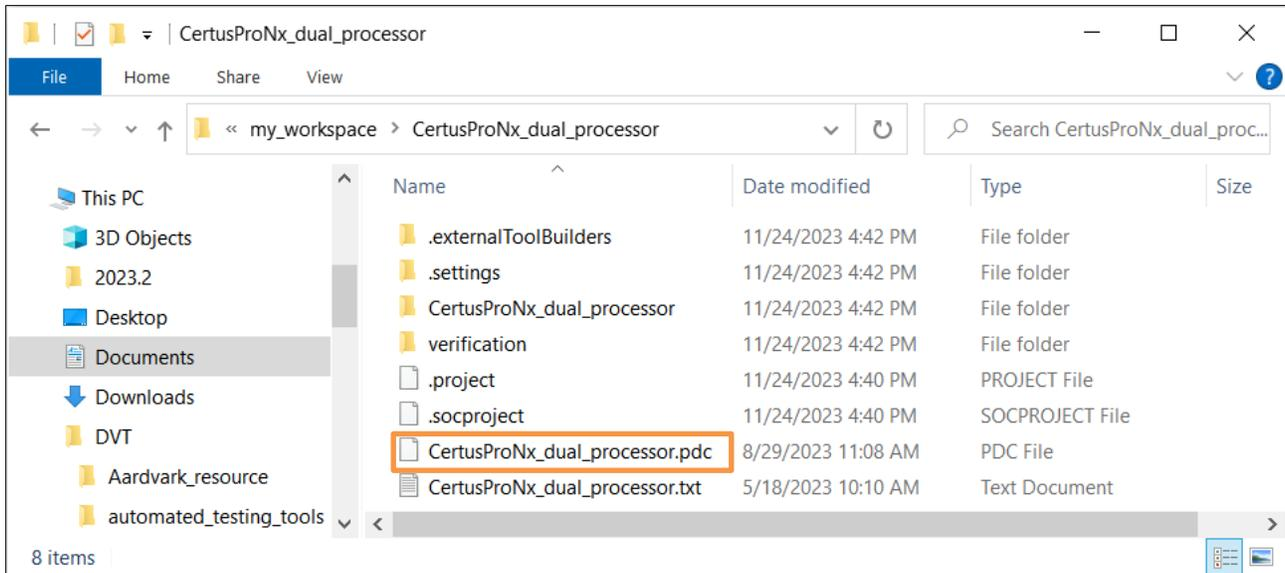

Figure 5.7. Constraint File in Source Project
- a. If the SoC is on board level, copy the Radiant constraint file from the source project (Figure 5.7).